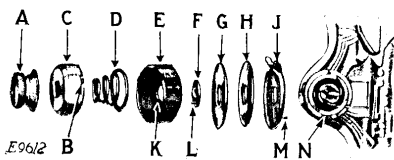

FIG. 27. THREAD TENSION PARTS REMOVED
Thread tension parts can be removed in the following order, as shown in Fig. 27: Thumb nut (A), tension indicator (C), tension spring (D), tension indicator flange (E), tension releasing disc (F), tension discs (G and H), thread